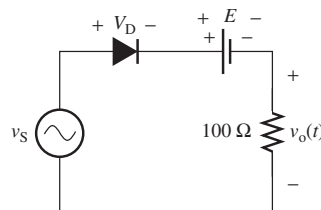

FIGURE P8.19 Voltage limiter.
- 8.19 (H) Find the transfer characteristic for the circuit shown in Figure P8.19 when $E = 4.3\text{ V}$.